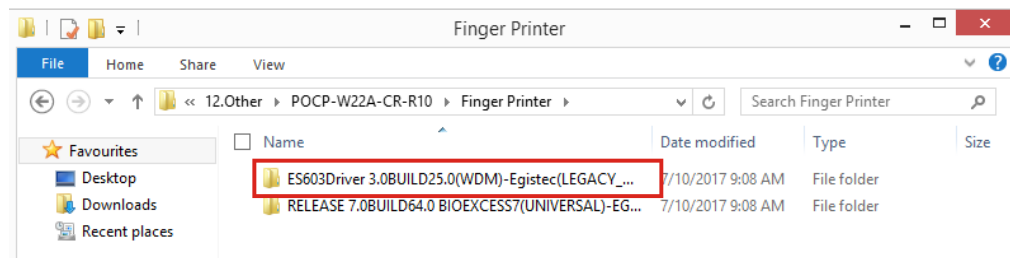

Figure 5-26: Fingerprint Reader Driver Folder
Step 2: The fingerprint reader driver is located in the following folder (**Figure 5-26**):